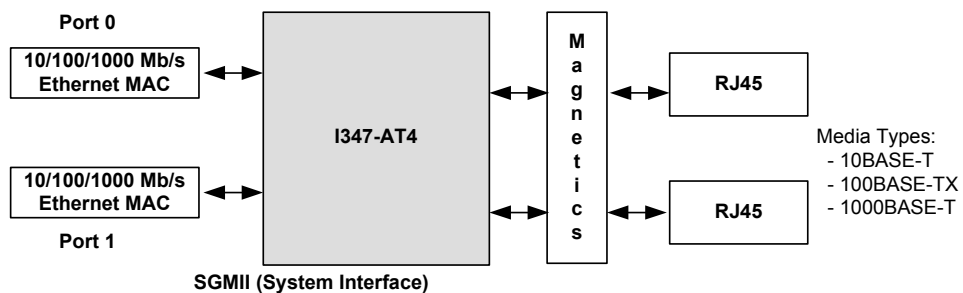
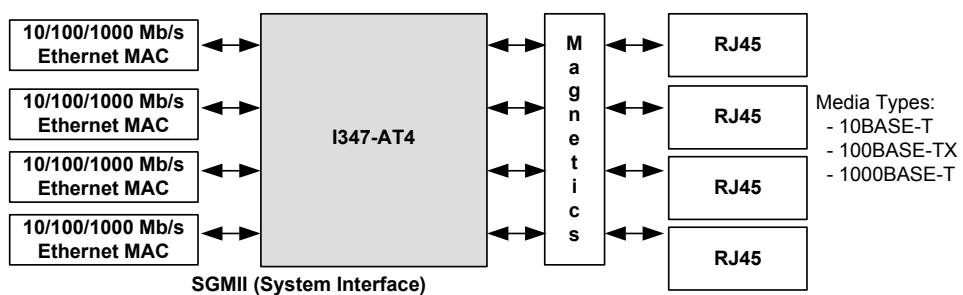

Figure 1. SGMII (System) to Copper — Dual Port Mode
Figure 2. SGMII (System) to Copper — Quad Port Mode
- Two or four ports SGMII-to-copper (see Figure 1 and Figure 2)